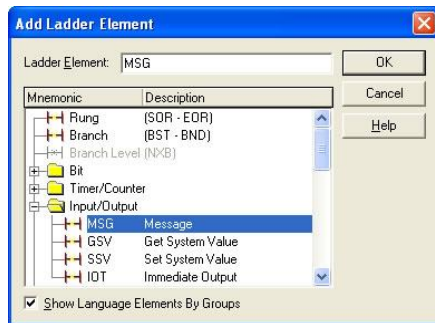

Figure 40: Adding a MSG Instruction
- d) Select the “MSG” instruction in the Input/Output folder. Refer to Figure 40.